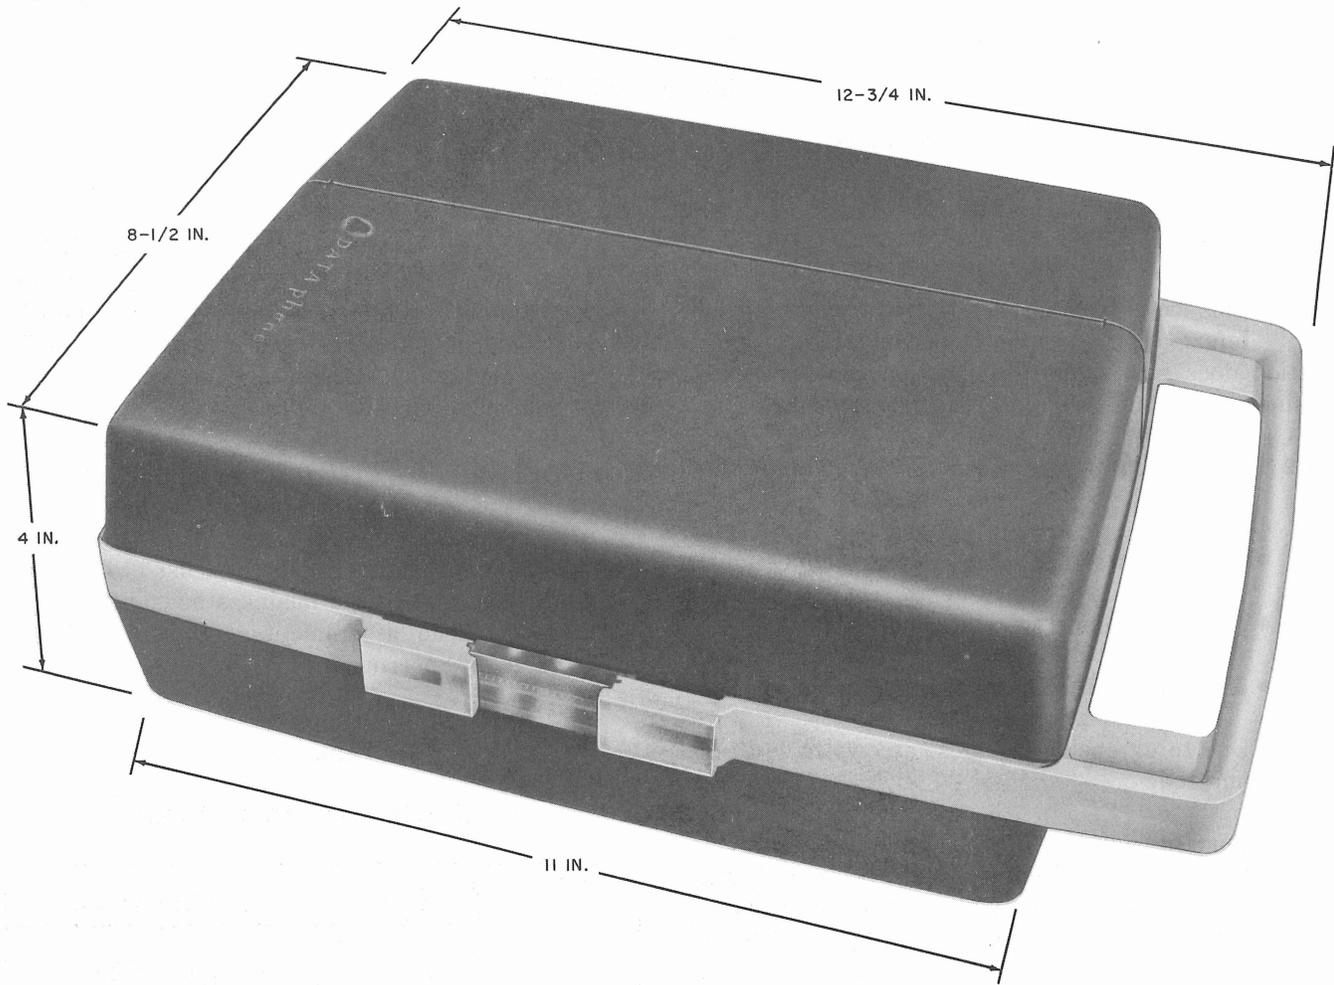
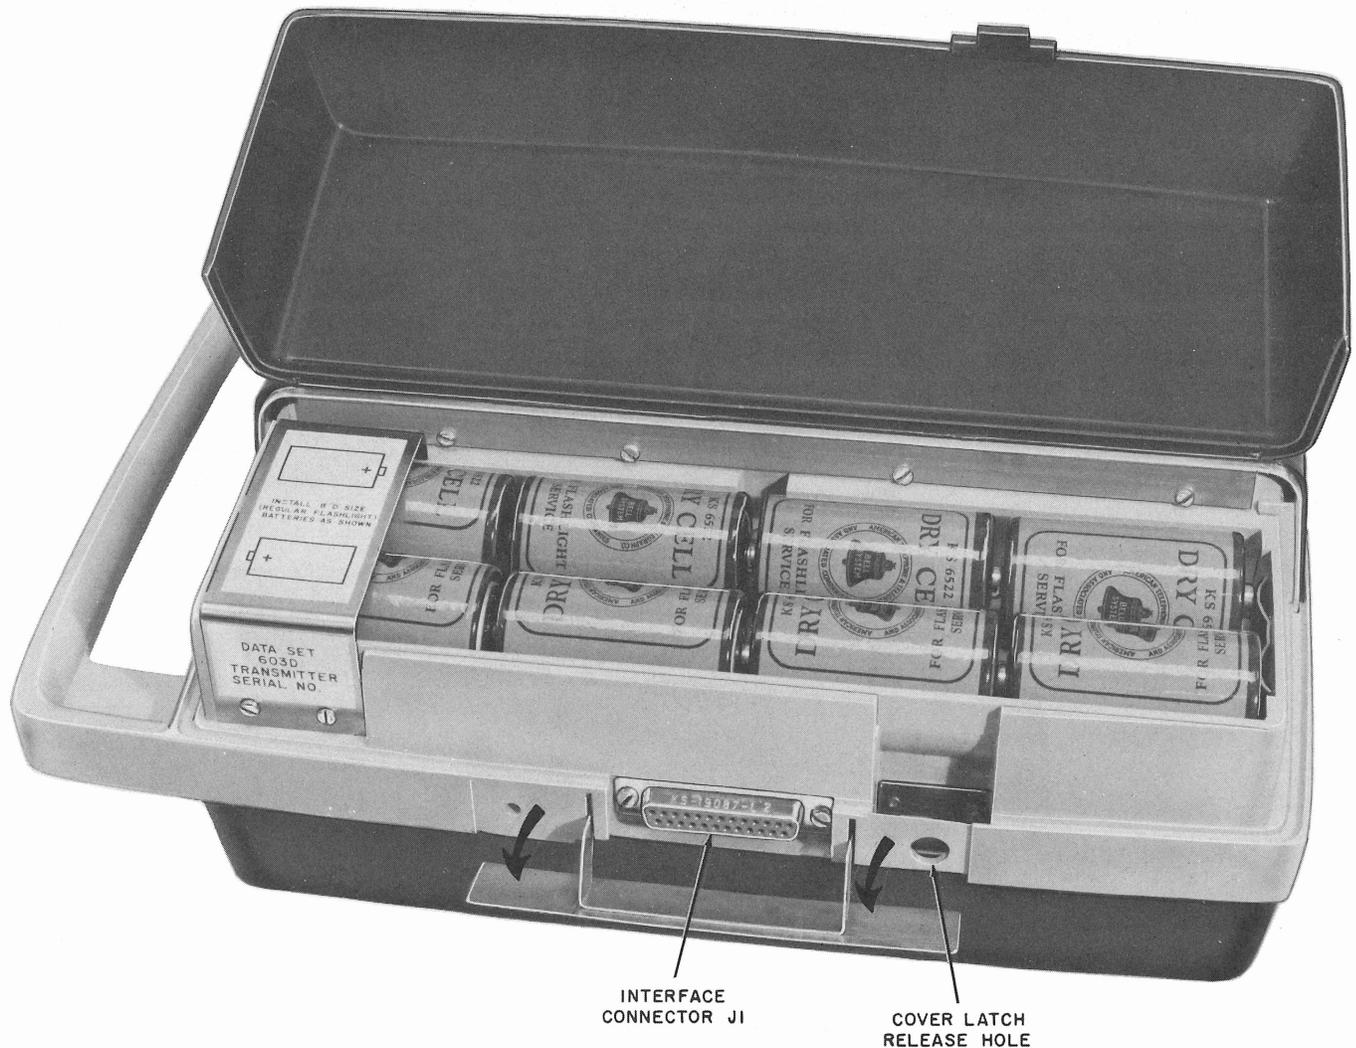

Fig. 1—Data Set 603D
Fig. 2—Data Set 603D, Rear View
- 2.01** The Data set 603D is housed in a two-tone gray plastic case. The data set weighs six pounds when equipped with batteries. Dimensions of the data set are shown in Fig. 1. Business machine signals are applied to the data set through interface connector J1. The connector is accessible when the protective hinged cover is pulled down (see Fig. 2). When access to the batteries is required, a probe is inserted and pressed into the lock release hole and the battery compartment